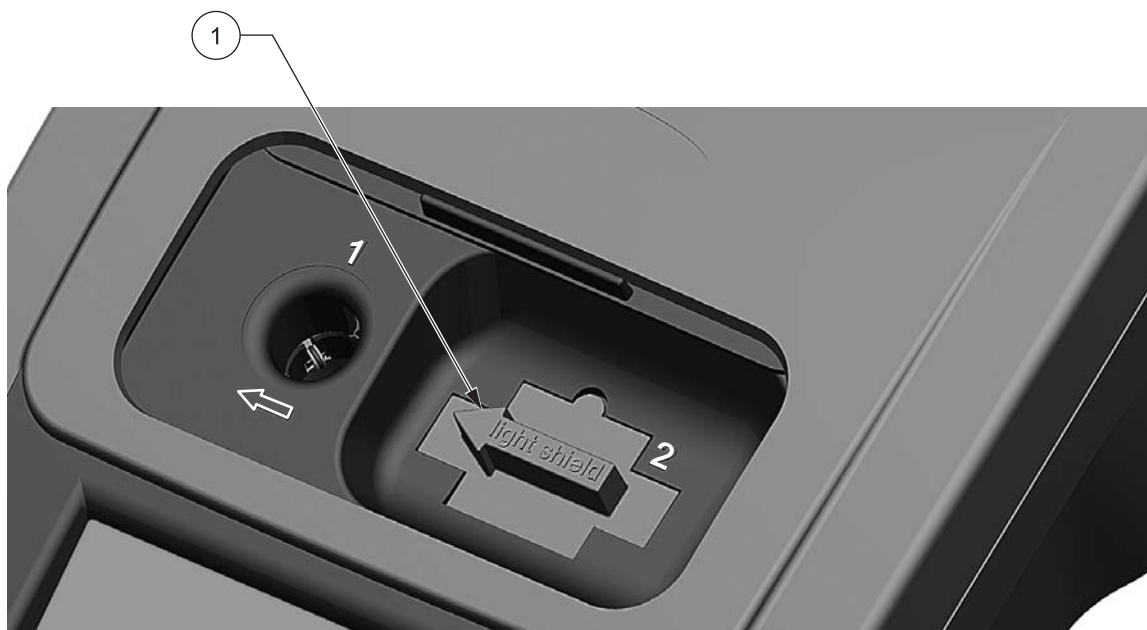

Figure 7 Light Shield Installed
2. Insert the light shield so the arrow on the light shield points to the left and the orientation tab fits the groove in the compartment opening (Figure 7)